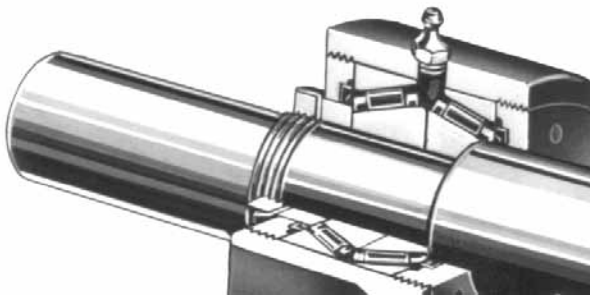

FIGURE 9
11. Insert both tapered roller bearings in the thrust bearing housing, large end of inner races together. It is possible to install bearings incorrectly, for proper assembly **refer to Figure 9 below.**